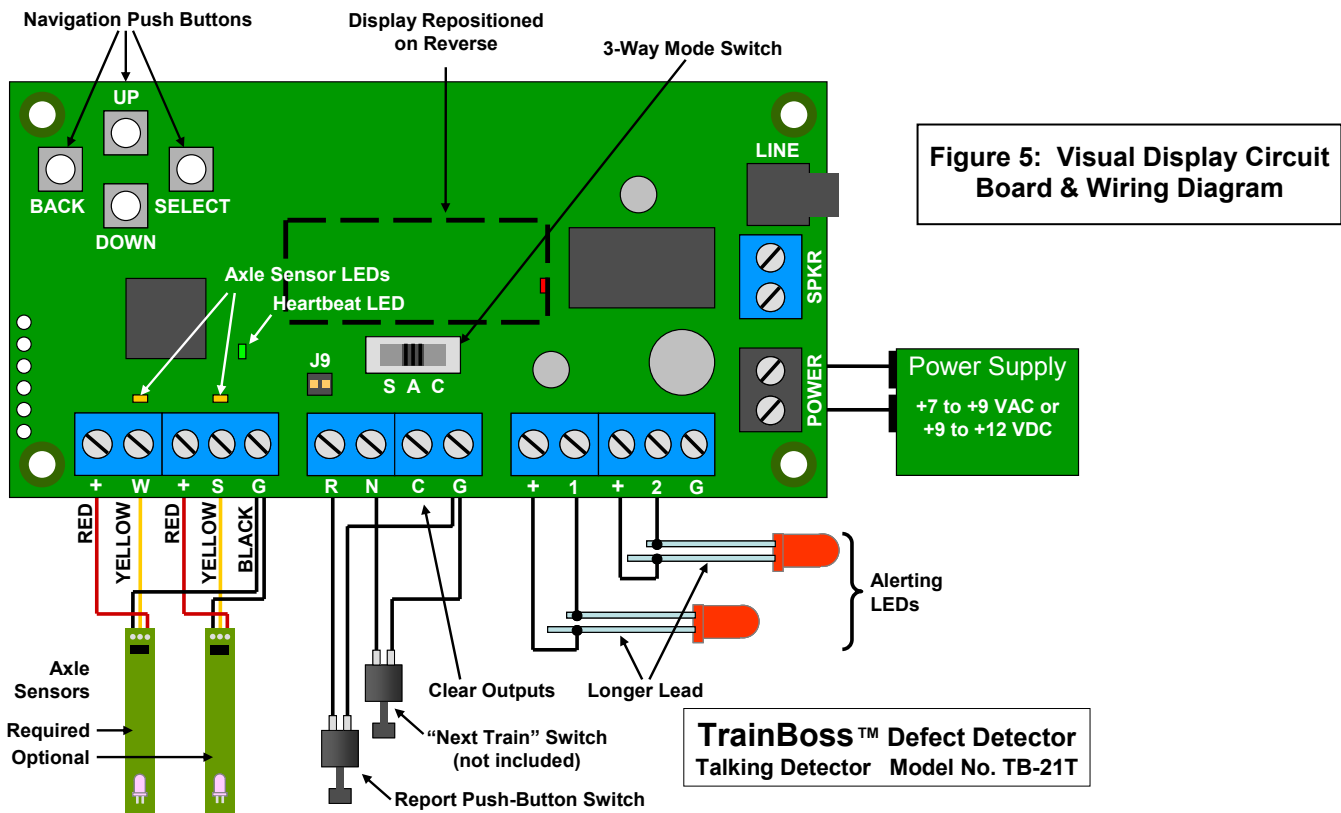

Figure 5: Visual Display Circuit Board & Wiring Diagram
Figure 5 shows how to wire your **TrainBoss™ Talking Defect Detector** for visual display reporting, along with key features on the circuit board.
1. Connect two wires from your power supply to the Defect Detector **gray** power terminals as shown in **Figure 5**. Polarity does not matter. The power supply must be 7 to 9 Volts AC or 9 to 12 Volts DC, with 250 mA capacity. Radio Shack sells an AC adapter (#273-314) that works well.
2. Connect the RED, BLACK and YELLOW wires from the Axle Sensors as shown in **Figure 5**. If you are installing the speed/length Axle Sensor, **remove Jumper J9**.
3. You can wire single Alerting LEDs as in **Figure 5**. LEDs are polarity sensitive – connect the long and short leads as shown. Visit [www.bouldercreekengineering.com/manuals.php](http://www.bouldercreekengineering.com/manuals.php) for information on how to interface other electronics to these two Alerting outputs. (LEDs are not included.)
4. The **Report** Switch triggers or repeats a defect report. Connect the push button **Report** Switch (included) as shown in **Figure 5** and mount on your fascia.
5. The **Next Train** Switch forces a defect report on the next train when “on”, which is nice for testing. If desired, connect an SPST **Next Train** Switch (not included) as shown in **Figure 5**.